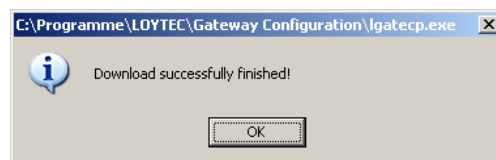

Figure 150: FTP download success dialog.
8. Observe the download progress. When the download is complete the dialog shown in Figure 150 appears.